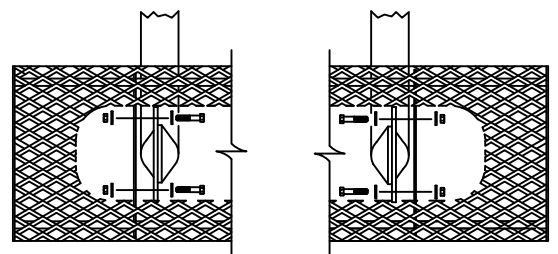

FIG. 3
Lift one (B-) seat above the seat end of each leg, on one side of the unit. Bring the seat down, aligning the mounting bracket on each leg, to the inside of the seat's mounting brackets, see FIG. 3. Secure the seat using two, per each mounting bracket, (H), (N) using two (M) and one (Q) per (H).